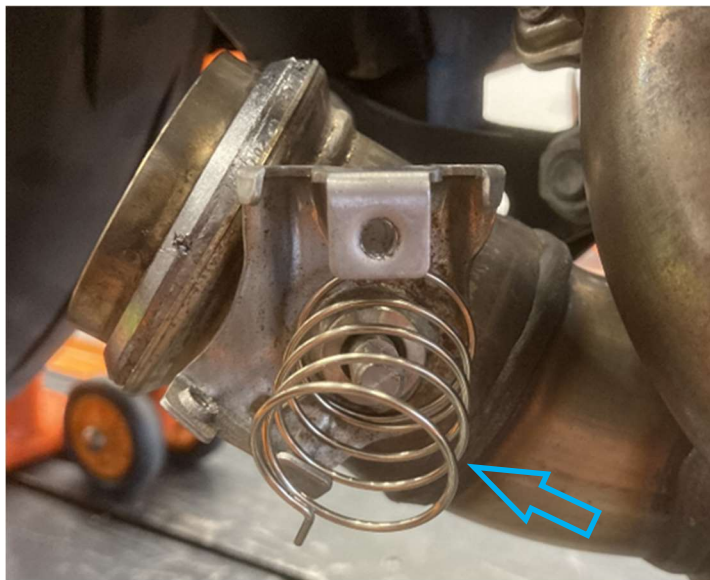

Fig.8 – Replacing the torsion spring.
2. Replace the installed torsion spring of the exhaust flap control with the new torsion spring included in repair kit #A62405031044, see Fig. 8.